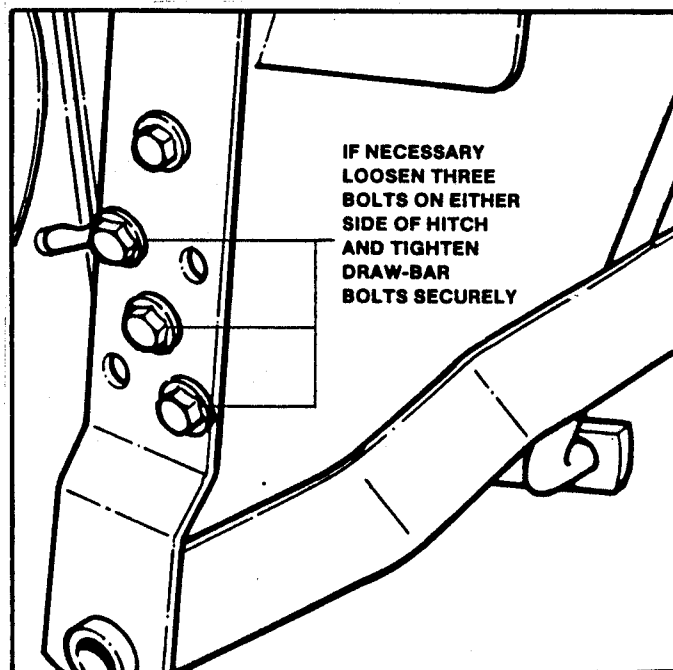

FIGURE 4
If the three point hitch does not mount flush to the draw-bar securely, loosen the three (3) bolts on either side of the three point hitch and tighten draw-bar bolts. Retighten the six (6) three point hitch frame bolts. See Figure 4.